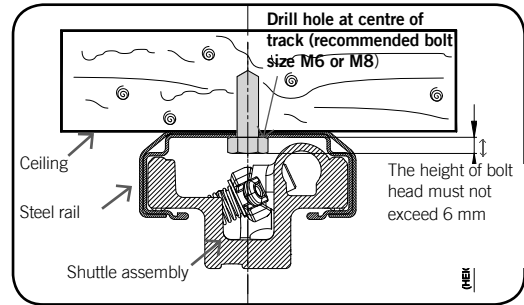

Fig. 18
- Rest the opener on the top edge of the door with end of the C-Rail against the wall (Fig. 18).
The opener can be fastened to the roof by driving a bolt through the C-Rail into a structural timber support. The bolt head's height must not exceed 6mm (Fig. 18).